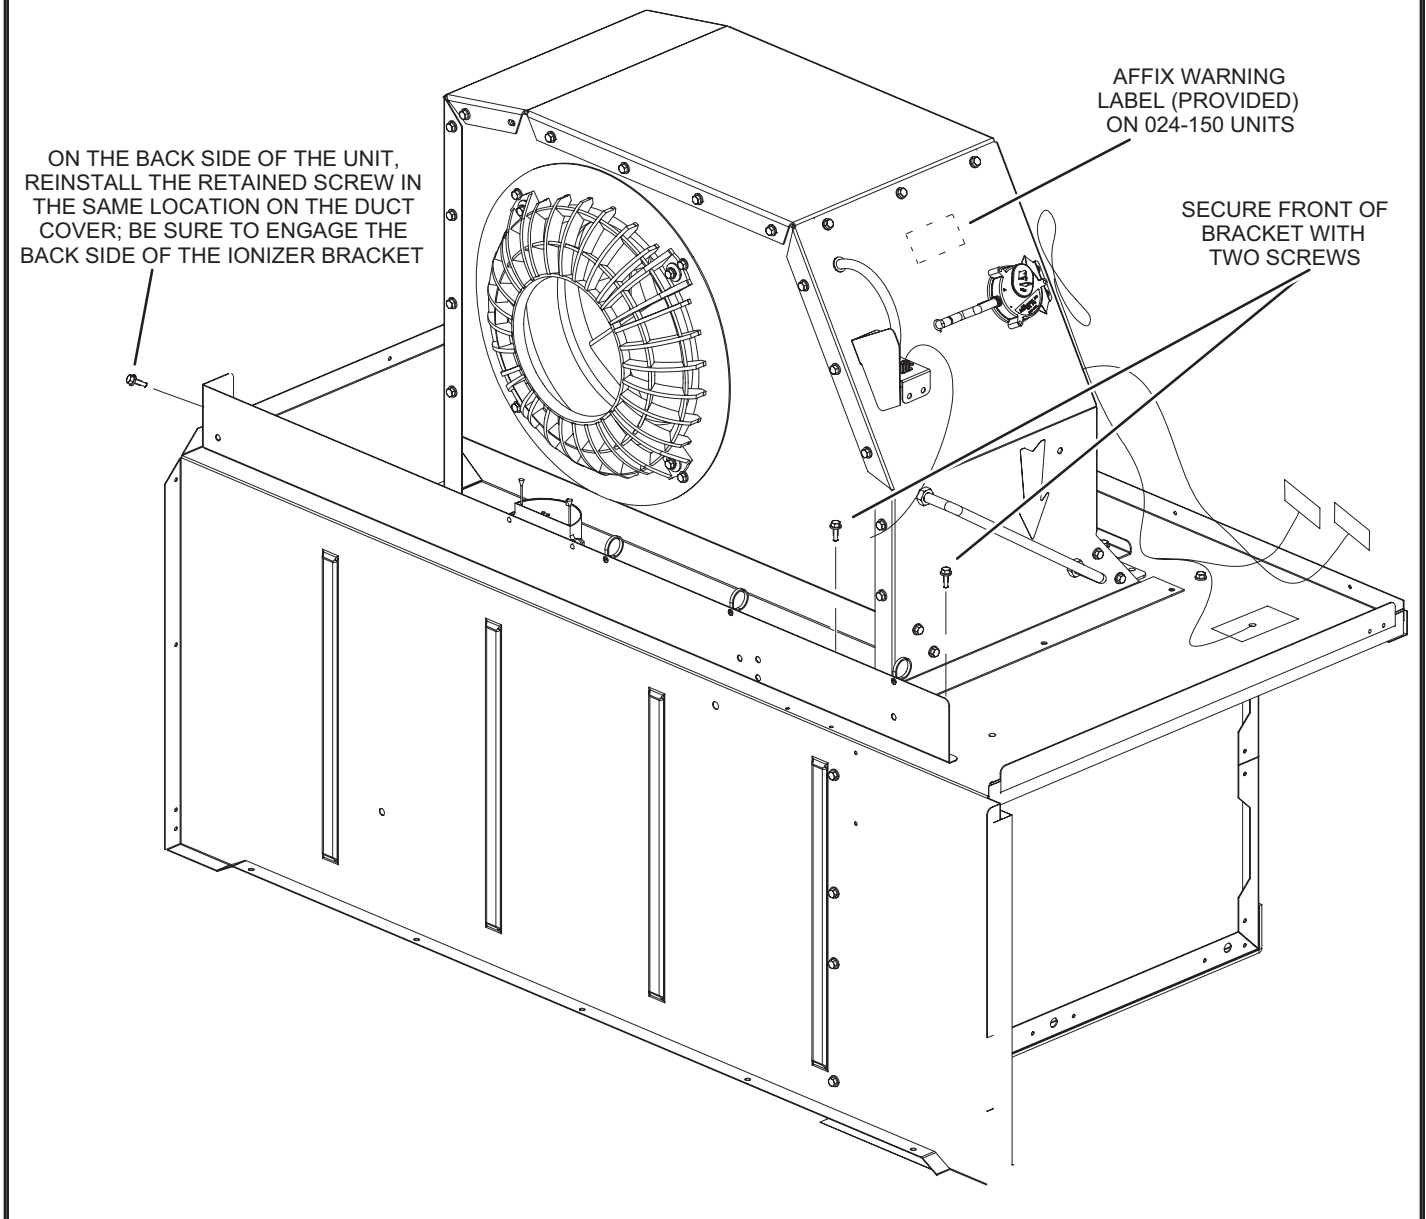

FIGURE 2
Affix warning label, provided in kit, in location shown in FIGURE 2 for 024-150 units and FIGURE 11 for 156-300 units.
- 2 - Install ionizer assembly on the blower deck to the left of the blower housing; secure with two provided screws. See FIGURE 2.
- 3 - On the back side of the unit, reinstall the retained screw engaging the back side of the ionizer bracket. See FIGURE 2.